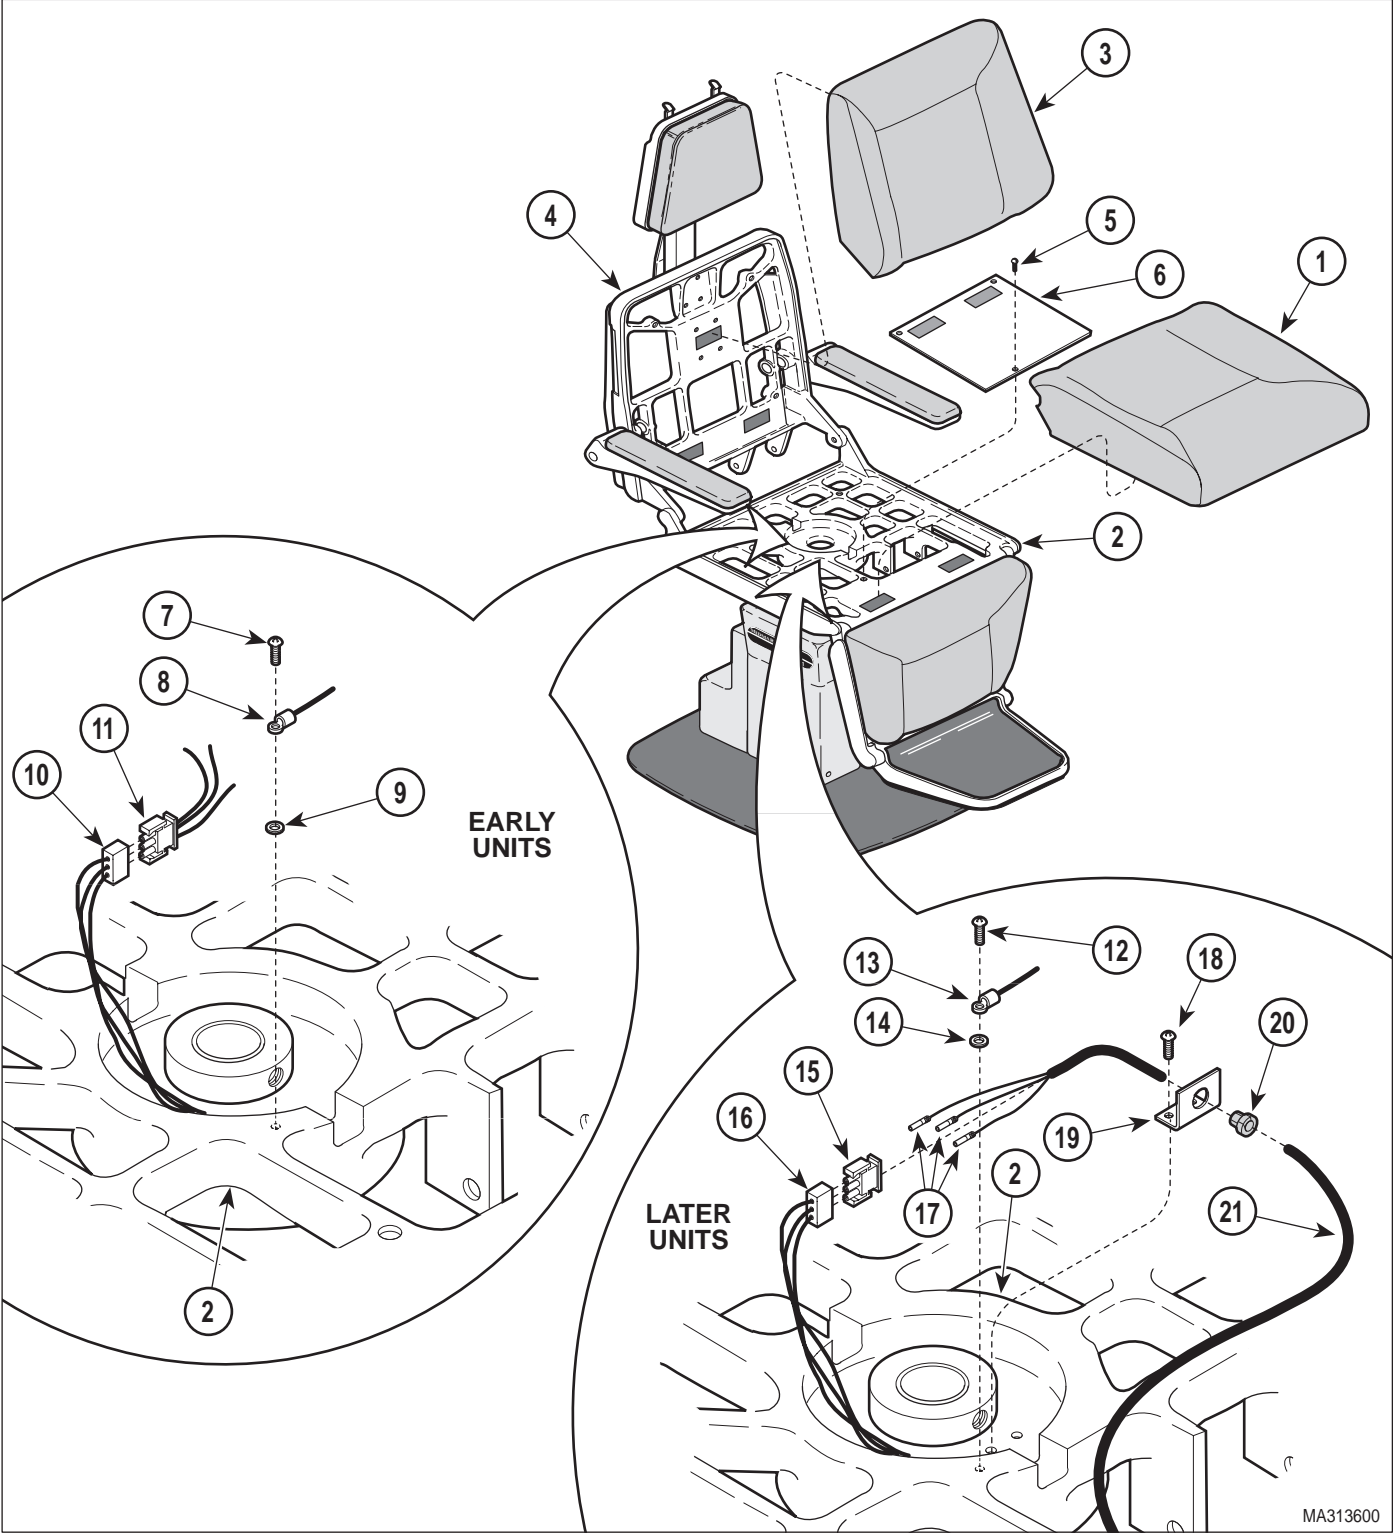
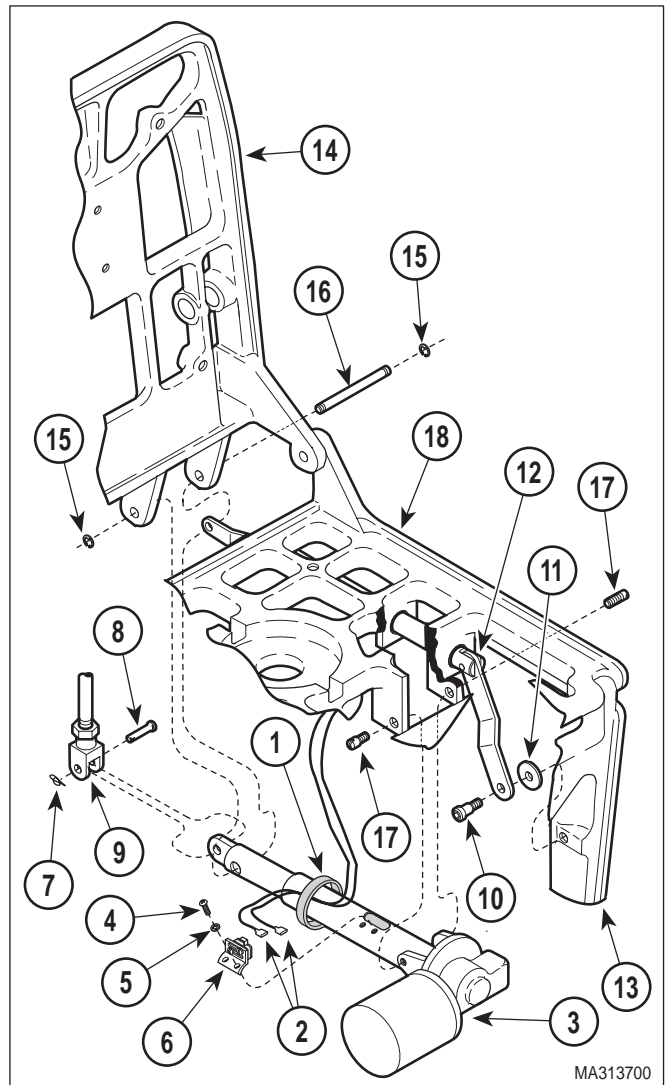

Figure 4-7. Wires Disconnection / Connection
Figure 4-8. Back Actuator Removal / Installation
(2) Remove upholstered seat section (1, Figure 4-7) from seat casting (2) and upholstered back section (3) from upholstered back casting (4).
(3) Remove three screws (5) and seat cover (6) from seat casting (2).
- c. Using an amp tool, push three socket terminals (17) from plug (15). See Table 1-2 for special tool.
- d. Remove two screws (18) and strain relief bracket (19) from seat casting (2).
- e. Remove strain relief bushing (20) from strain relief bracket (19).
- f. Pull back actuator wires (21) from strain relief bracket (19).
- g. Remove strain relief bushing (20) from back actuator wires (21).
- (6) Cut cable tie (1, Figure 4-8) securing limit switch wires (2) to shaft of back actuator (3).
- (7) Remove two screws (4), lockwashers (5), and separate limit switch bracket (6) from shaft of back actuator (3).
- (1) Install back actuator (3, Figure 4-8) on seat casting (18) and secure with two screws (17).
- (2) Align shaft of back actuator (3) and push rod assembly (12) with back casting (14) and secure with clevis pin (16) and two e-rings (15).
- (3) Coat threads of screw (10) with removable threadlocking adhesive (Loctite 242).
- (4) Align push rod assembly (12) with leg casting (13) and secure with washer (11) and screw (10).
- (5) Connect linkage assembly (9) to shaft of back actuator (3) with clevis pin (8) and rue ring cotter pin (7).
- (6) Install limit switch bracket (6) on shaft of back actuator (3) and secure with two lockwashers (5) and screws (4).
- (7) Secure limit switch wires (2) to shaft of back actuator (3) with a cable tie (1).
- (8) On chairs with Serial Numbers CT-1355 thru Present and DG-1100 thru Present, perform the following steps:
- a. Feed back actuator wires (21, Figure 4-7) thru strain relief bracket (19).
- b. Insert three socket terminals (17) into plug (15).
- c. Connect wire harness (15) to wire harness (16).
- d. Connect ground wire (13) to seat casting (2) and secure with starwasher (14) and screw (12).
- e. Install strain relief bushing (20) on back actuator wires (21) and then into strain relief bracket (19).
- f. Install strain relief bracket (19) on seat casting (2) and secure with two screws (18).
- (9) On chairs with Serial Numbers CT-1000 thru CT-1354 and DG-1000 thru DG-1099, perform the following steps:
- a. Connect wire harness (10, Figure 4-7) to wire harness (11).
- b. Install starwasher (9) and ground wire (8) on seat casting (2) and secure with screw (7).
- (10) Install seat cover (6) on seat casting (2) and secure with three screws (5).
- (11) Install upholstered back section (3) on back casting (4) and upholstered seat section (1) on seat casting (2).
- (12) Plug chair power cord into wall outlet.